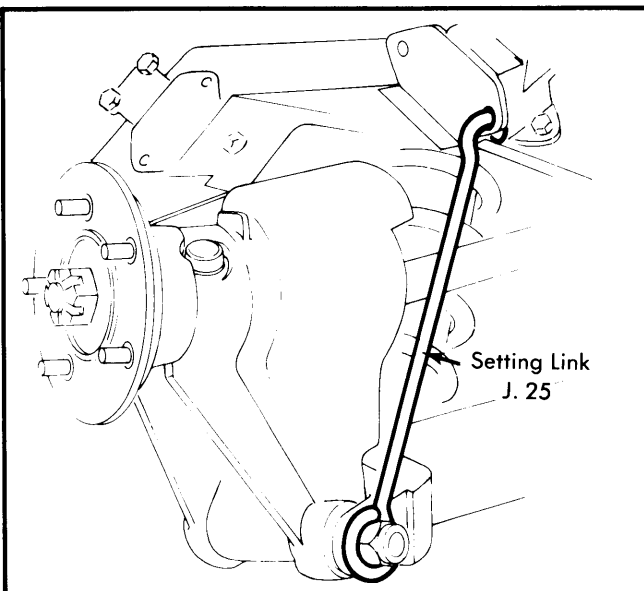

Fig. 2 Rear Suspension in Locked Position with Special Tool
3) Compress rear suspension and install setting links (J. 25) to lock rear suspension in place. See Fig. 2. Vehicle is now locked in half-loaded condition and caster and camber can be checked and adjusted.